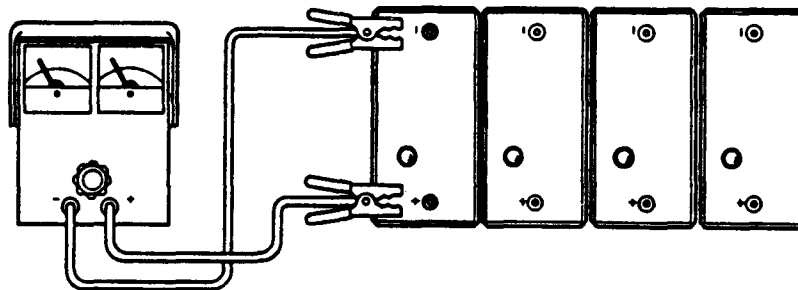

Fig. 2 - Battery Testing
6. If no hydrometer eye, measure terminal voltage (Fig. 2)